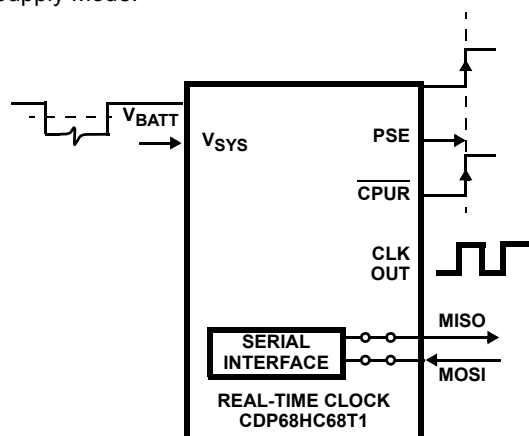

FIGURE 6. POWER-UP FUNCTIONAL DIAGRAM (INITIATED BY A RISE IN VOLTAGE ON THE " $V_{SYS}$ " PIN)
### Watchdog Function (See Figure 6)
- The second condition that releases Power-Down occurs when the level on the  $V_{SYS}$  pin rises about 1.0V above the level at the  $V_{BATT}$  input, after previously falling to the level of  $V_{BATT}$  (see Figure 6) in the Battery Backup Mode or  $V_{SYS}$  falls to logic low and returns high in the Single Supply Mode.